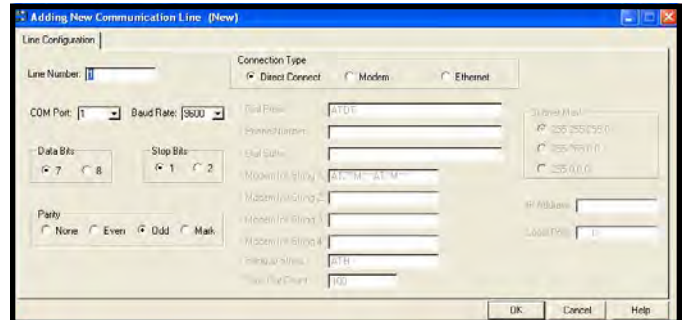

Figure 8. Out-of-the-Box™, Adding New Communication Line window
- VI. The "Adding New Communication Line" window will open. The following fields will have to be configured for direct connection use (see Figure 8):